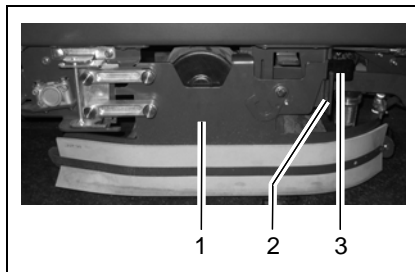

Fig. 4
1. Open the deflector (Fig. 4/1): take hold of the grip (Fig. 4/3), raise the deflector (Fig. 4/1), pivot open towards the front and set it down (service position).
11. Close the deflector (Fig. 4/1):
Take hold of the grip (Fig. 4/3), raise the deflector (Fig. 4/1), pivot to the device and lower into the deflector lock (Fig. 4/2).
The deflector (Fig. 4/1) is now in its working position.